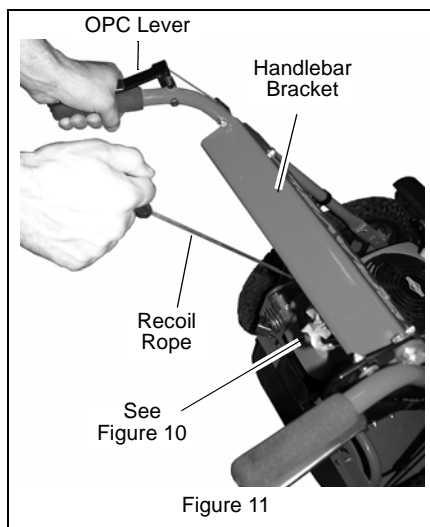

Figure 11
1. Hold OPC lever fully depressed while slowly pulling recoil rope out past handlebar. Release OPC lever while holding recoil rope extended. See Figure 11.